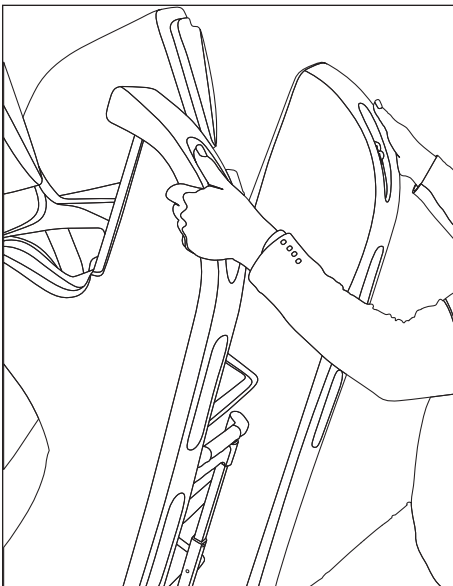

Figure 5
3. Using both hands, as shown in **Figure 5**, grab the ladder handles and slowly begin leaning the SlideAway™ towards you to transfer the weight of the slide onto the dolly wheels, enabling you to roll the slide to the desired location.